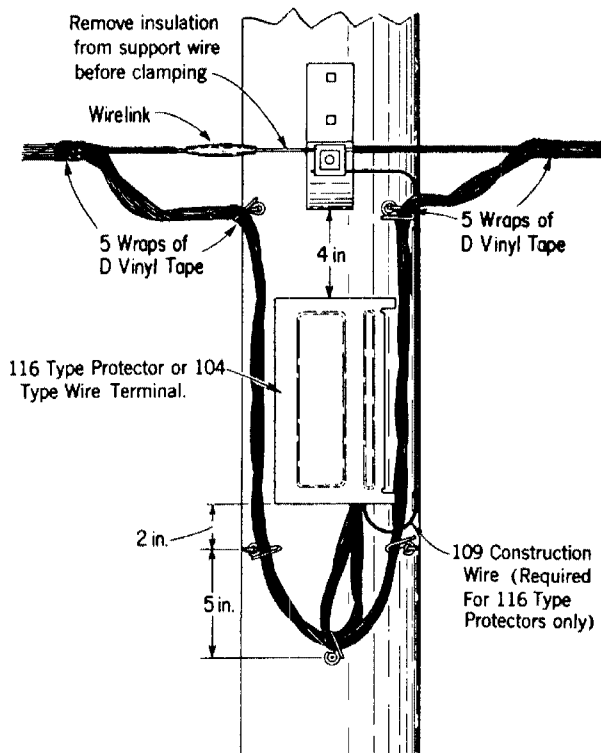

Fig. 13 — Intermediate Pole
4.02 At intermediate poles, 6-pair wire terminals or protectors can be located as shown in Fig. 13.